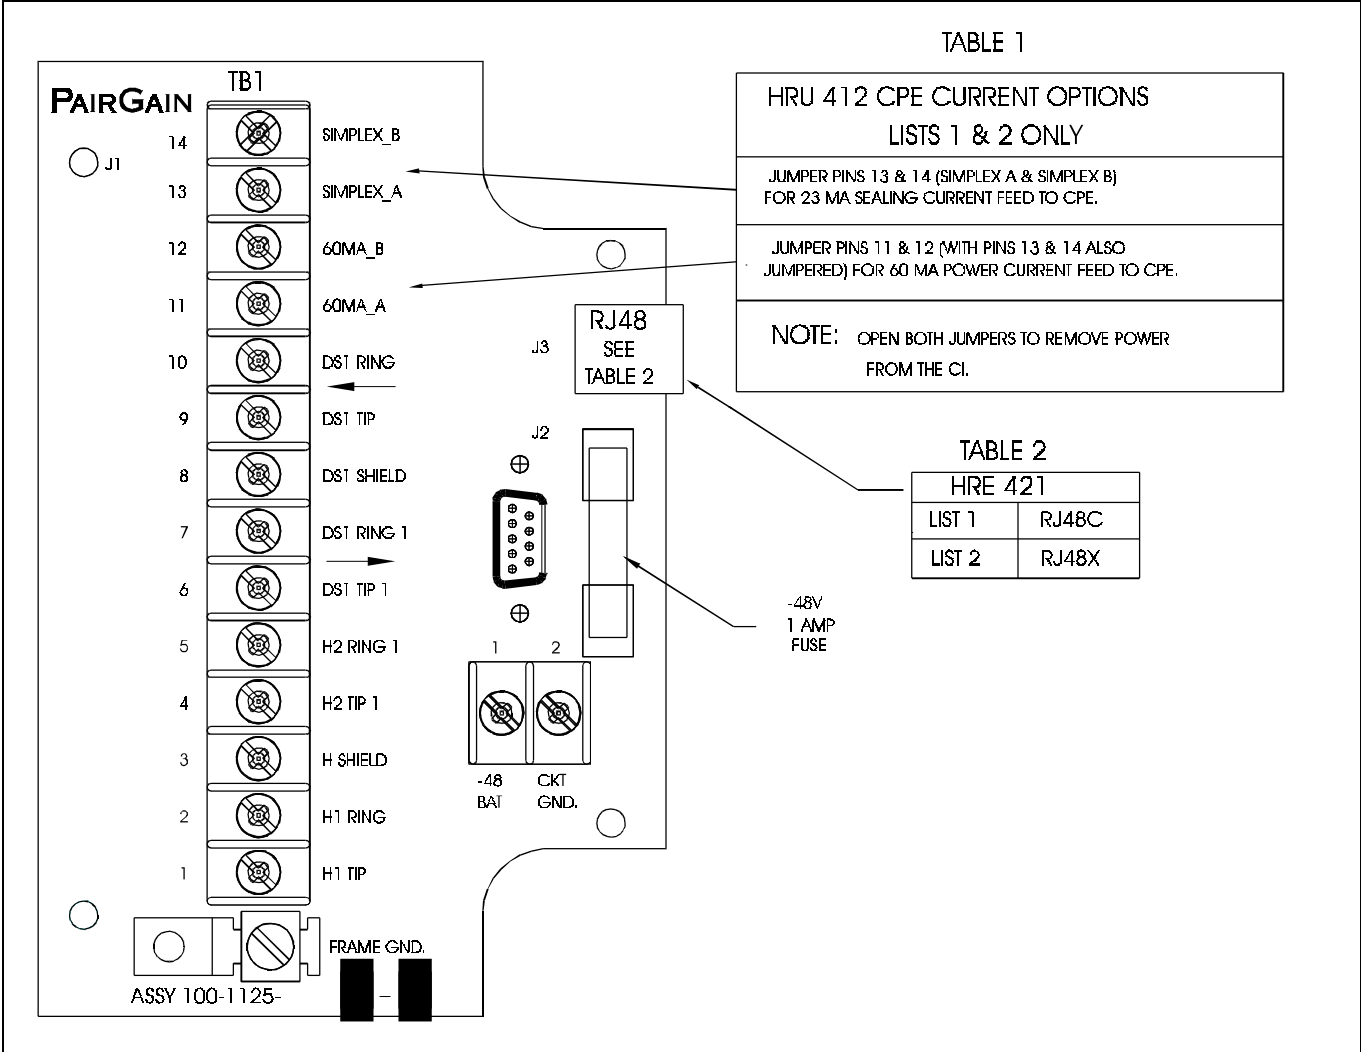

Figure 4. TB1 pin assignments.
7.01 Power and Grounding: See Figure 4.
7.02 HDSL Connections: Refer to Figure 4.
7.04 Current feed jumpers: See Figure 4.